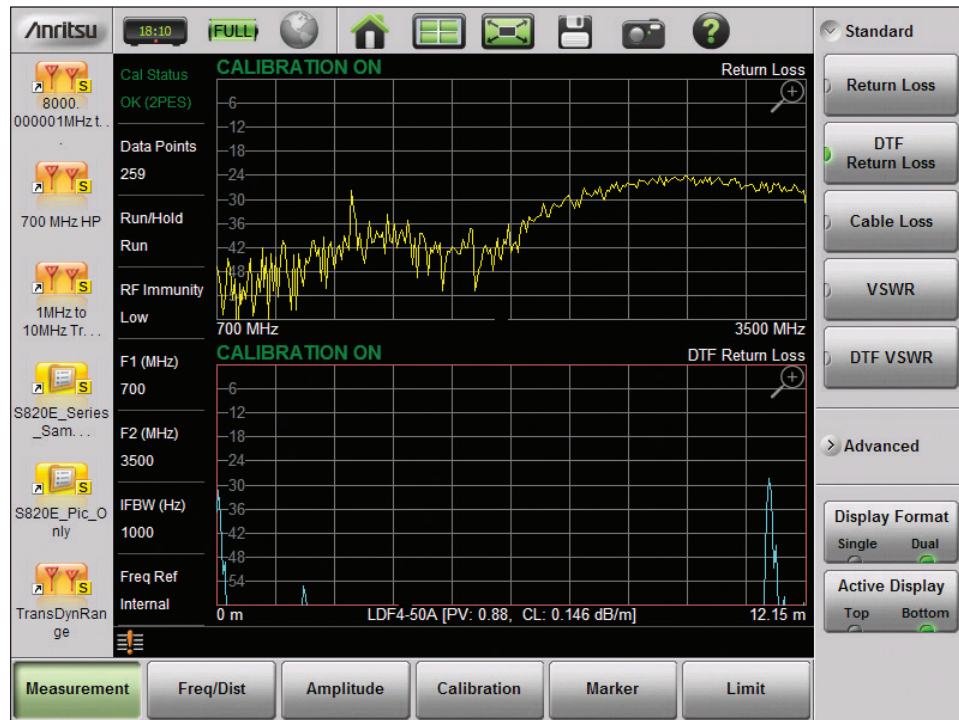

Figure 15. Dual display measurement with Return Loss and DTF-Return Loss displayed
The screen will split into 2 graphs as seen in **Figure 15**, one graph will be highlighted with a red box, this is the “active” trace or measurement for parameter setting or measurement enhancements such as markers, limits, scale, etc. Select what to display for each active trace as you would if using the single display mode. You may mix and match any measurement combination that is supported by the current calibration. Each measurement trace will display Calibration On or Calibration Off depending on whether the current active calibration can support the selected measurement type. Please consult the S820E user guide for more information on Dual Display measurements.
- Distance-to-Fault measurements are generally necessary and invaluable when a problem has been encountered in the transmission system. Finding the precise location of the fault(s) is easily done simply by selecting “DTF Return Loss” or “DTF-VSWR” after completing the Return Loss measurement described in step 6. Alternatively the user could simultaneously display both the Return Loss measurement and the DTF-Return Loss measurement using the Dual display format as noted above. See **Figure 15**. Additional information regarding Distance-to-Fault measurements may be found in the S820E user guide as well as in the following application note titled “Distance To Fault” available from the library tab of the S820E web page located here <http://www.anritsu.com/en-us/products-solutions/products/s820e.aspx>